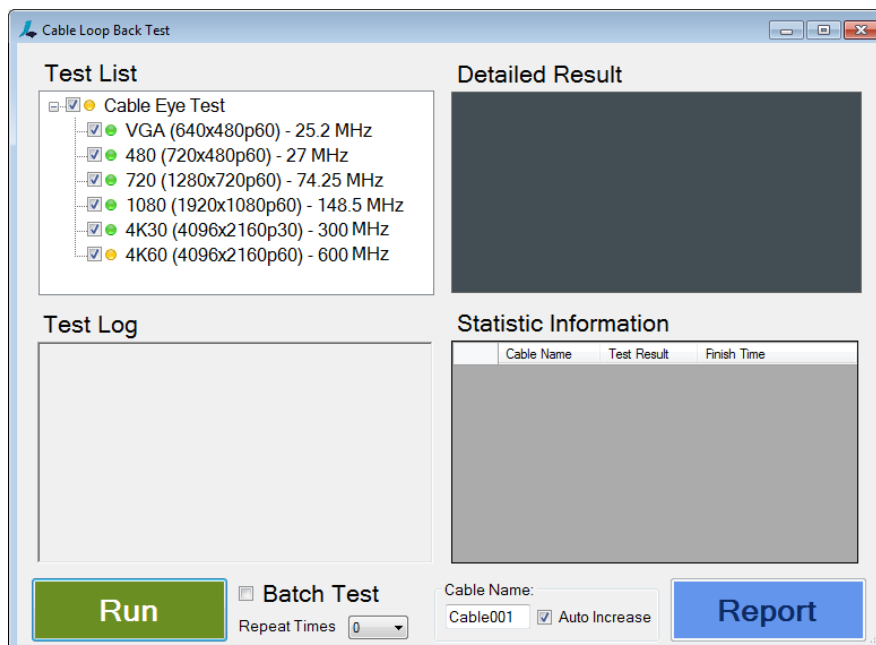

Figure 4.11. Selected Items in Test List
1. Select one or multiple items in the Test List area (Figure 4.11).